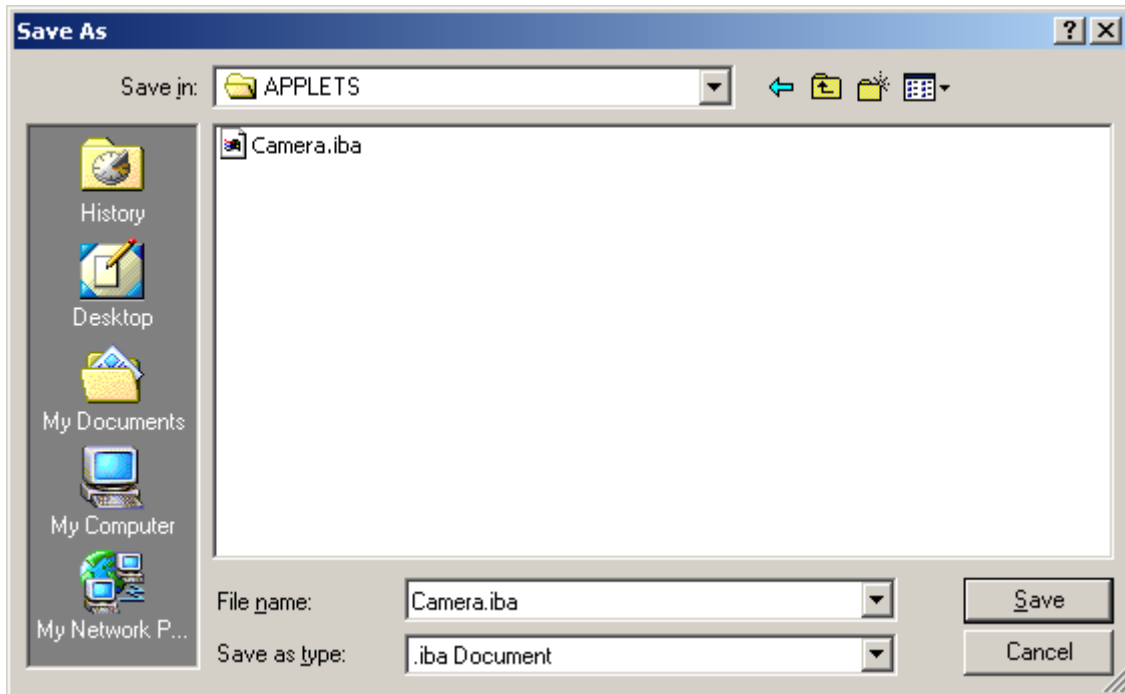

Figure 139. Applet File Save As Screen
Step 4: When the Save As screen (Figure 139) appears, browse to the APPLETS folder created earlier and click on the **Save** button.